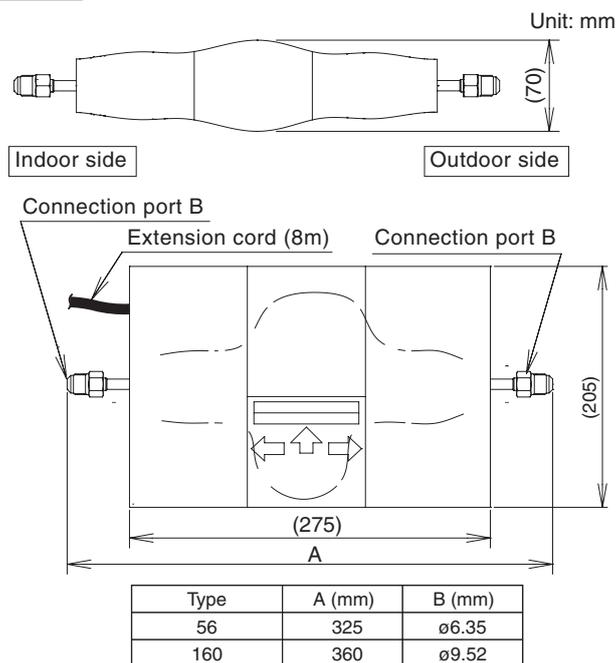

Fig. 2-13 Diagram of outer dimensions
- The valve should be connected to the liquid tube. Determine the position for installation referring to the diagram of outer dimensions. (Fig. 2-13)